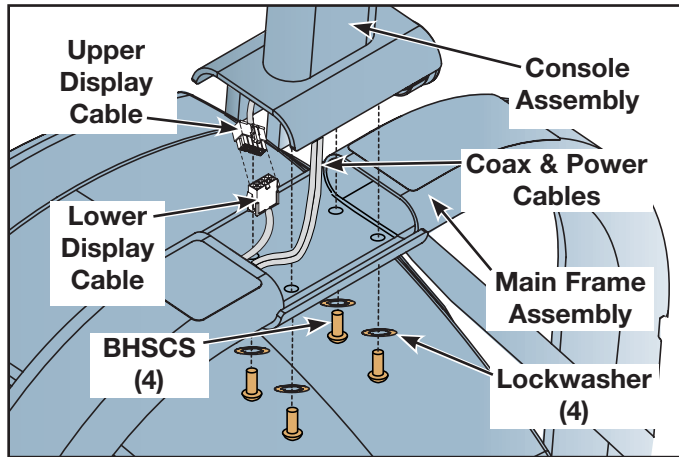

Figure 21
- B. Plug the upper display cable into the lower display cable in the main frame assembly. See Figure 21.
- C. With 8" of coax and power cables (B) exiting the top of the console assembly, pull the extra coax and power cables out of the bottom of the main frame.
- D. Place the console assembly in the correct position on the main frame assembly and hand thread each of the four BHSCS and four lockwashers. See Figure 21.